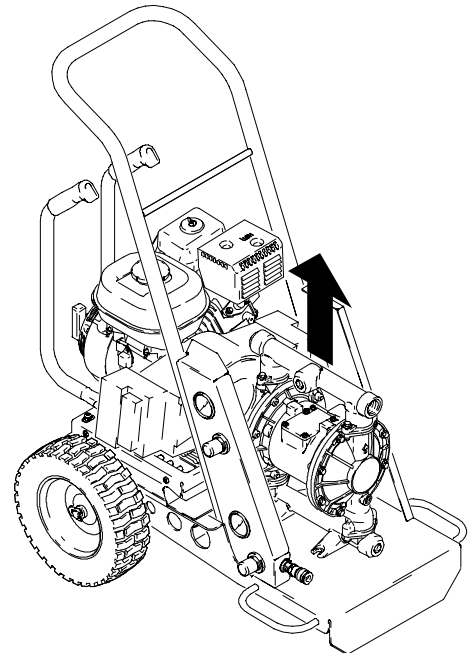

Fig. 13
6. Lift pump straight up off cart. Fig. 13.